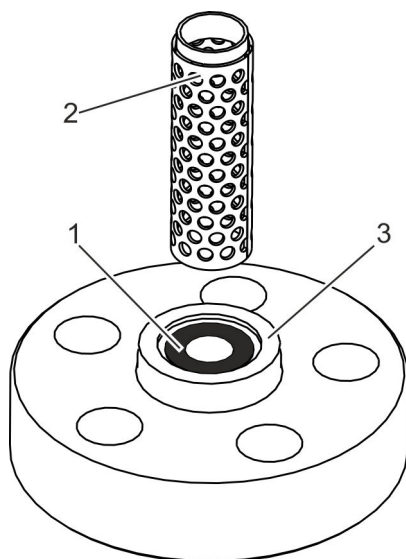

Fig. 23: Dismounting the screen cylinder
2. ➤ Remove the screen cylinder (Fig. 23/2) from the centring element (Fig. 23/3) of the cover.
3. ➤ Remove the packing ring (Fig. 23/1) from the cover.